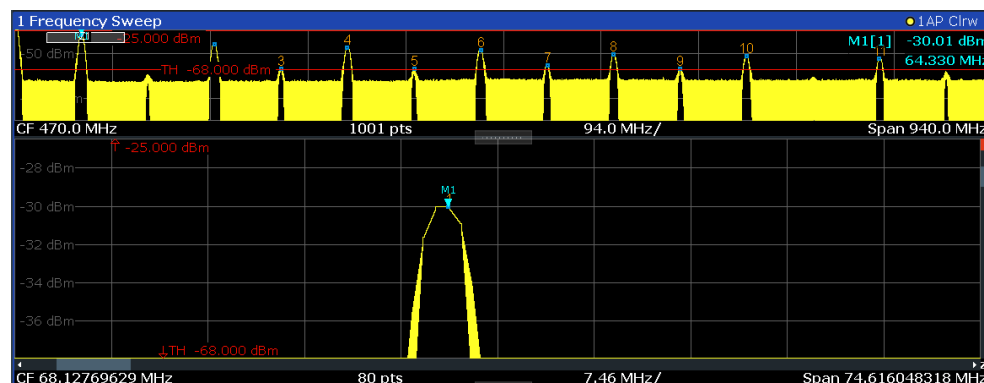

Figure 4-16: Zoomed display around a peak
3. In Figure 4-16, the enlarged peak is represented by a very thick trace. This is due to the insufficient number of sweep points. The missing sweep points for the zoomed display are interpolated, which provides poor results. To optimize the results, we will increase the number of sweep points from the default 1001 to 32001.